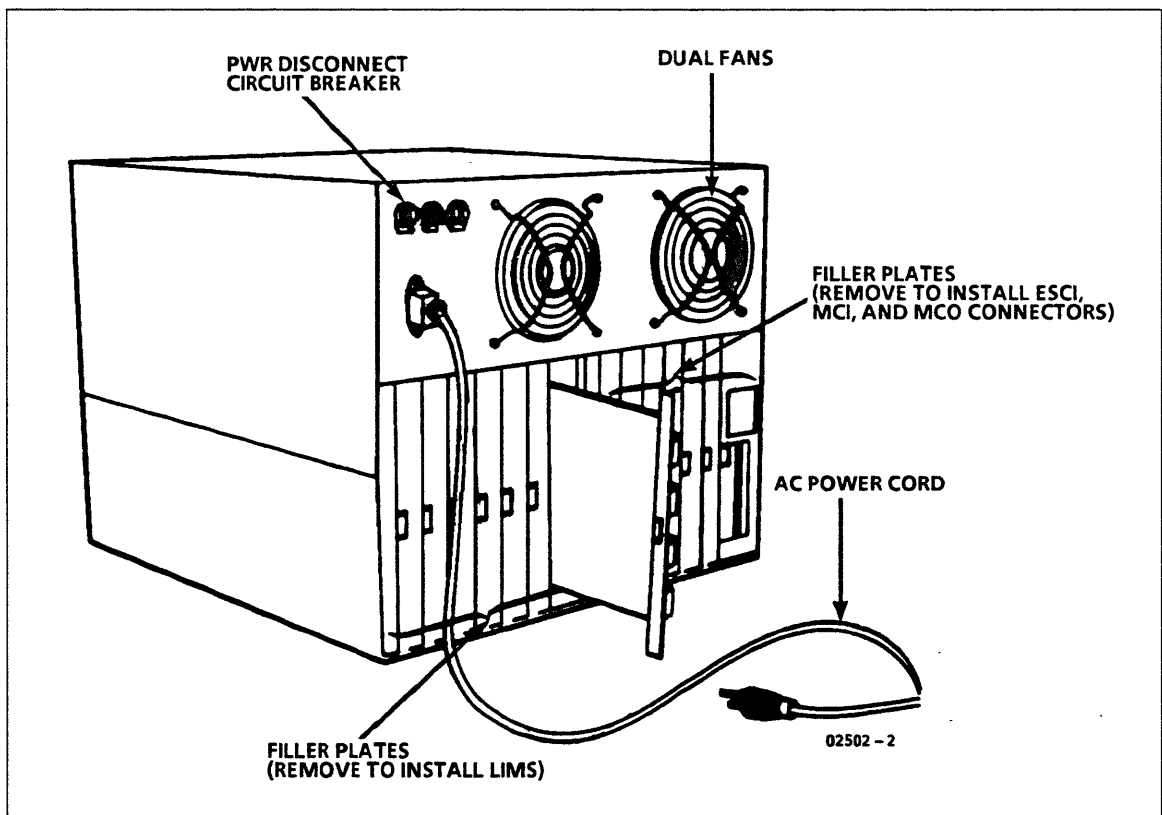

Figure 3-7. DI Cabinet Components - Back View
6. Refer to figure 3-7, and identify the components on the back of the DI cabinet.